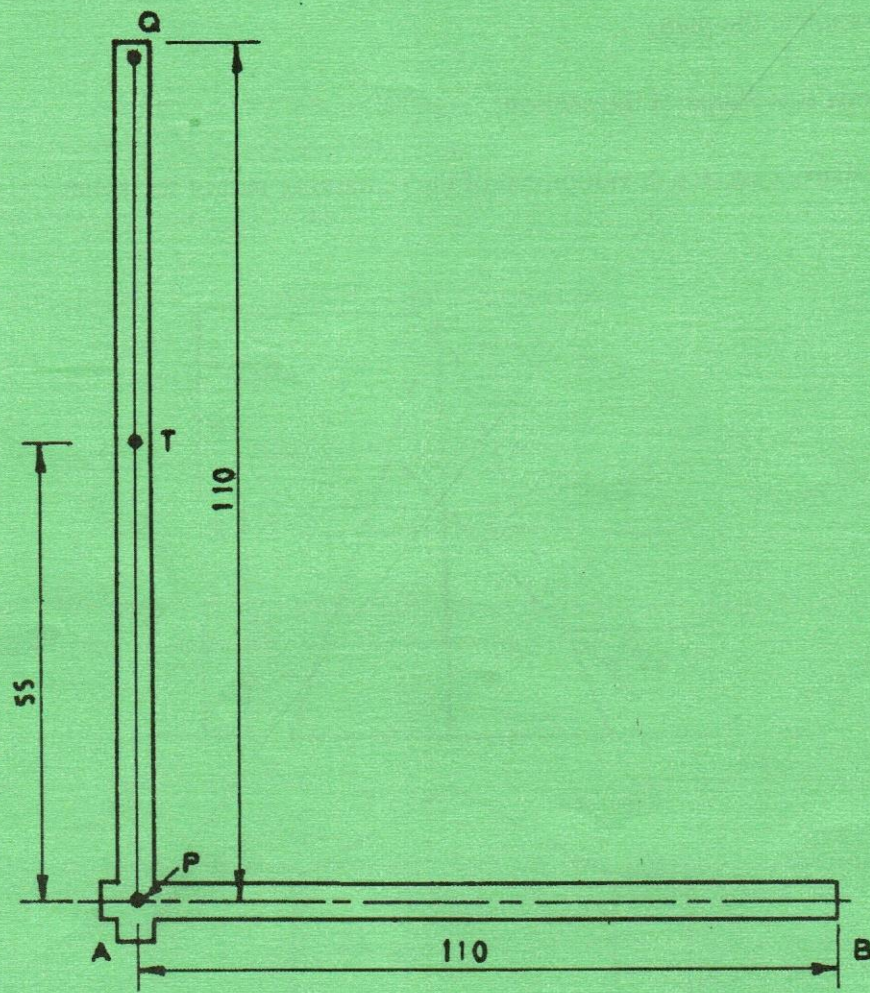

Fig. 4
4. On top of a folding mechanism, PQ 110 mm long is constrained to slide in a vertical and horizontal guide as shown in figure 4. Draw the locus of the point T, which is mid-point of the rod QP, as P moves horizontally from point A to B. (20 marks)